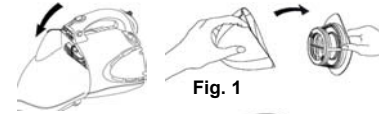

Fig. 1
- To open the dust cup (container), push dust cup release button and pull out the dust cup. Verify that the HEPA dust cup filter with the debris screen is inside, then re-attach the dust cup (container) to the hand vacuum. (Fig. 1)